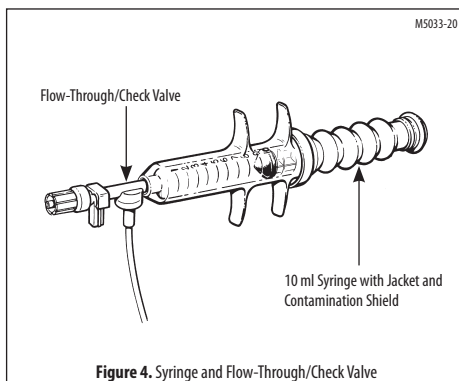

Figure 4. Syringe and Flow-Through/Check Valve
1. Connect the 10 ml syringe to the flow-through/check valve (See Fig. 4). **Caution: Do not connect the syringe to the catheter side of the flow-through/check valve.** Damage to the flow-through/check valve can occur if the flow-through/check valve is flushed or pressurized from the wrong side. Disabling back-pressurization of the flow-through/check valve can also occur if the 3-way stopcock between the flow-through/check valve and the catheter is not